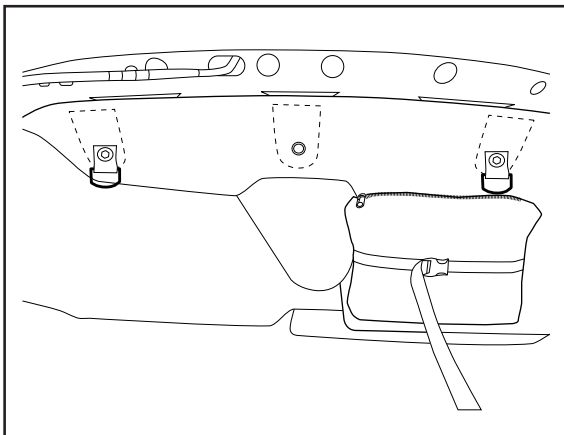

Fig. 5
6. Note orientation of D-Rings. (Fig. 5)